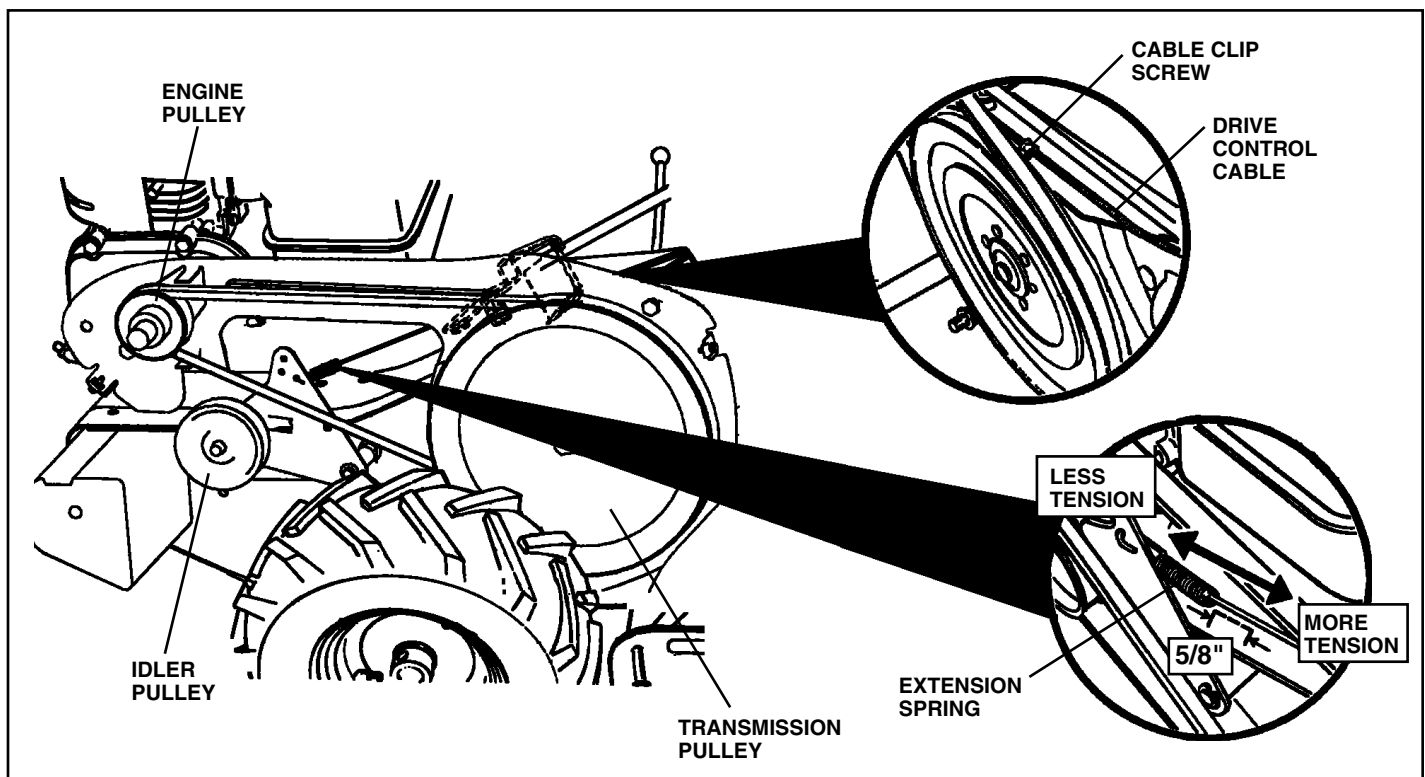

FIG. 28
- New tines should be assembled as shown in Fig. 28. Sharpened tine edges will rotate rearward from above.
## GROUND DRIVE BELT ADJUSTMENT (See Fig. 28)